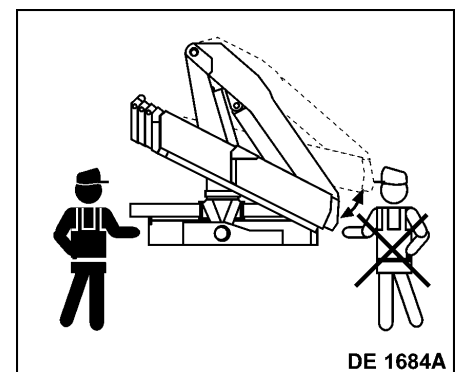

fig. 30
- Fold the inner boom to its stroke end; the rest locating pin locates into its seat (fig. 30).